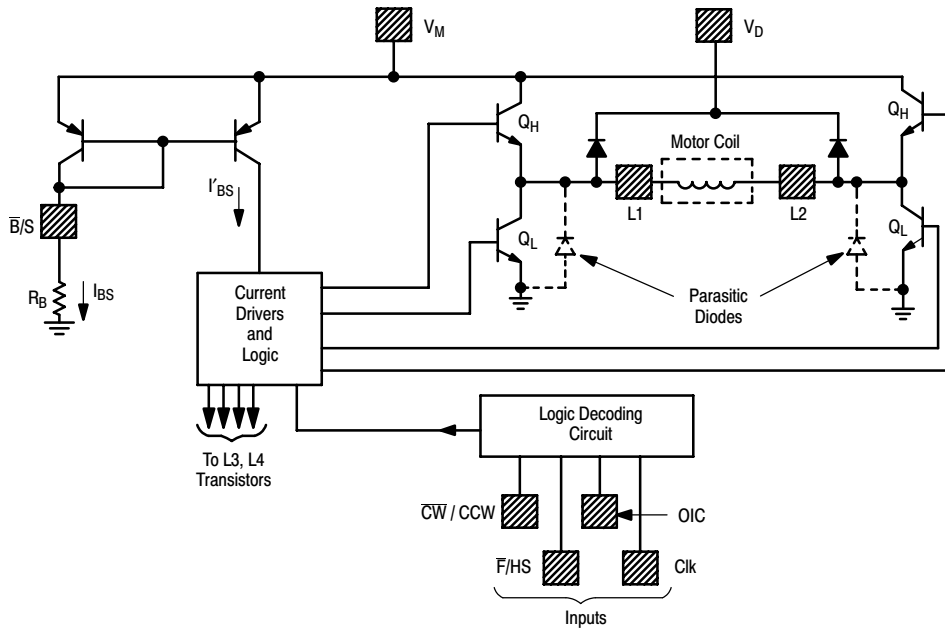
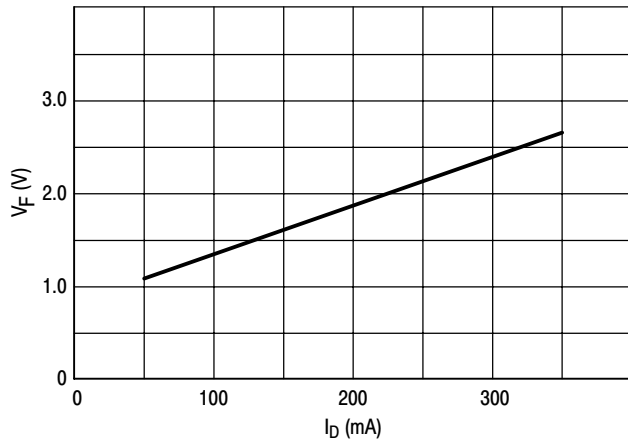
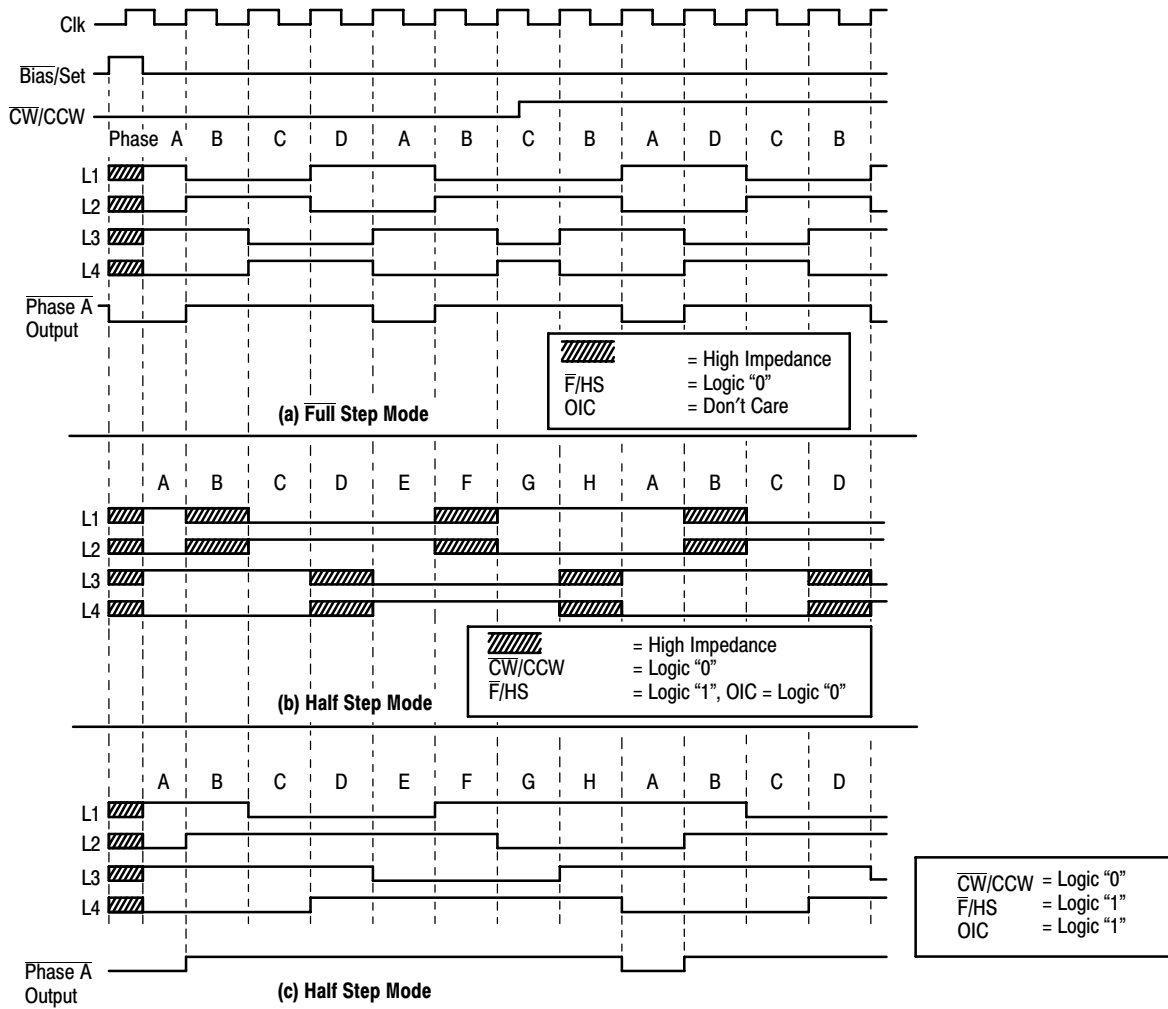
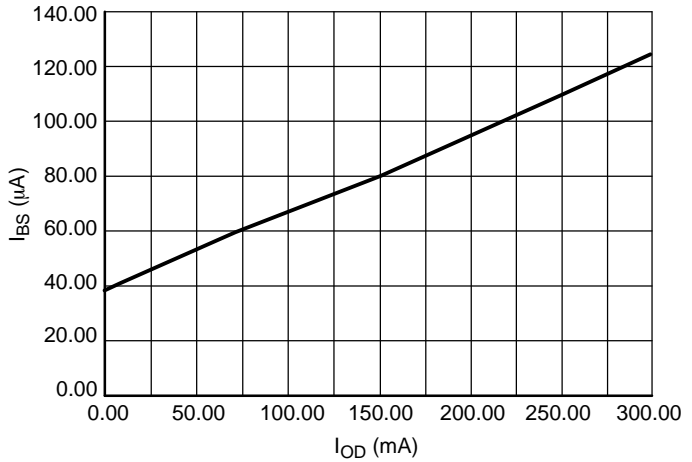

Figure 5. Output Stages
Figure 6. Clamp Diode Characteristics
Figure 7. Output Sequence
Figure 11. Bias/Set Current – Output Drive Current
The outputs (L1–L4) are high current outputs (see Figure 5), which when connected to a two-phase motor, provide two full-bridge configurations (L3 and L4 are not shown in Figure 5). The polarities applied to the motor coils depend on which transistor (Q_H or Q_L) of each output is on, which in turn depends on the inputs and the decoding circuitry.
are to be in a high impedance state, both transistors (Q_H and Q_L of Figure 5) of each output are off.
This pin allows for provision of a current path for the motor coil current during switching, in order to suppress back-EMF voltage spikes. V_D is normally connected to V_M (Pin 16) through a diode (zener or regular), a resistor, or directly. The peaks instantaneous voltage at the outputs must not exceed V_M by more than 6.0 V. The voltage drop across the internal clamping diodes must be included in this portion of the design (see Figure 6). Note the parasitic diodes (Figure 5) across each Q_L of each output provide for a complete circuit path for the switched current.
When this input is at a Logic “0” (< 0.8 V), the outputs change a full step with each clock cycle, with the sequence direction depending on the \overline{CW}/CCW input. There are four steps ($\overline{\text{Phase A}}$, $\overline{\text{B}}$, $\overline{\text{C}}$, $\overline{\text{D}}$) for each complete cycle of the sequencing logic. Current flows through both motor coils during each step, as shown in Figure 7.
When taken to a Logic “1” (>2.0 V), the outputs change a half step with each clock cycle, with the sequence direction depending on the \overline{CW}/CCW input. Eight steps ($\overline{\text{Phase A}}$ to $\overline{\text{H}}$) result for each complete cycle of the sequencing logic. $\overline{\text{Phase A}}$, $\overline{\text{C}}$, $\overline{\text{E}}$ and $\overline{\text{G}}$ correspond (in polarity) to $\overline{\text{Phase A}}$, $\overline{\text{B}}$, $\overline{\text{C}}$, and $\overline{\text{D}}$, respectively, of the full step sequence. $\overline{\text{Phase B}}$, $\overline{\text{D}}$, $\overline{\text{F}}$ and $\overline{\text{H}}$ provide current to one motor coil, while de-energizing the other coil. The condition of the outputs of the de-energized coil depends on the OIC input, see Figure 7 timing diagram.
The output impedance control input determines the output impedance to the de-energized coil when operating in the half-step mode. When the outputs are in $\overline{\text{Phase B}}$, $\overline{\text{D}}$, $\overline{\text{F}}$ or $\overline{\text{H}}$ (Figure 7) and this input is at a Logic “0” (<0.8 V), the two outputs to the de-energized coil are in a high impedance condition – Q_L and Q_H of both outputs (Figure 5) are off. When this input is at a Logic “1” (>2.0 V), a low impedance output is provided to the de-energized coil as both outputs have Q_H on (Q_L off). To complete the low impedance path requires connecting V_D to V_M as described elsewhere in this data sheet.
a) The maximum output sink current is determined by the base drive current supplied to the lower transistors (Q_Ls of Figure 5) of each output, which in turn, is a function of I_{BS}. The appropriate value of I_{BS} can be approximated using Figure 11.
For example, assume an application where $V_M = 12\text{ V}$, the motor requires 200 mA/coil, operating at room temperature with no heatsink on the IC. From Figure 11, I_{BS} is determined to be 95 μA .